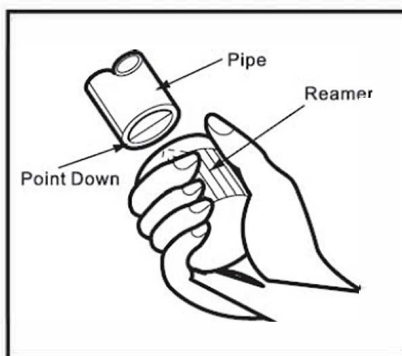

Fig. 410
- 2) Remove burrs on the cutting edges. Keep the pipe outlet down to avoid the metal powder into the pipe (Fig. 410).